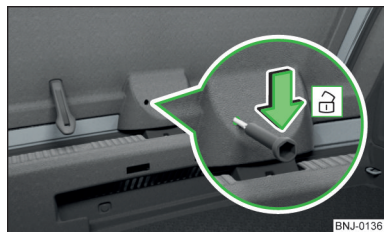

Fig. 275
- Insert a screwdriver or similar tool into the opening in the trim » Fig. 275 as far as the latch.